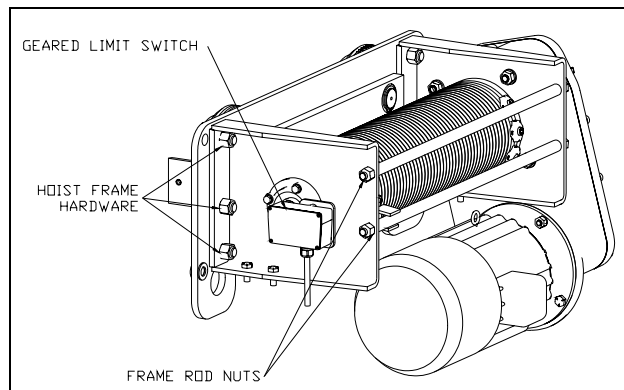

Figure 5-7. Drum Frame & Geared Limit Switch.
- b) Remove the Geared Limit Switch or disconnect the wires so that the electrical cable will not inhibit removal of the drum. (See Figure 5-7).
- c) Remove the unit from service, place it on the ground, and provide adequate means to support the drum before removing the frame rod nuts at the outboard drum frame end (Figure 5-7). The hardware attaching the drum frame to the hoist and trolley frame may then be removed.